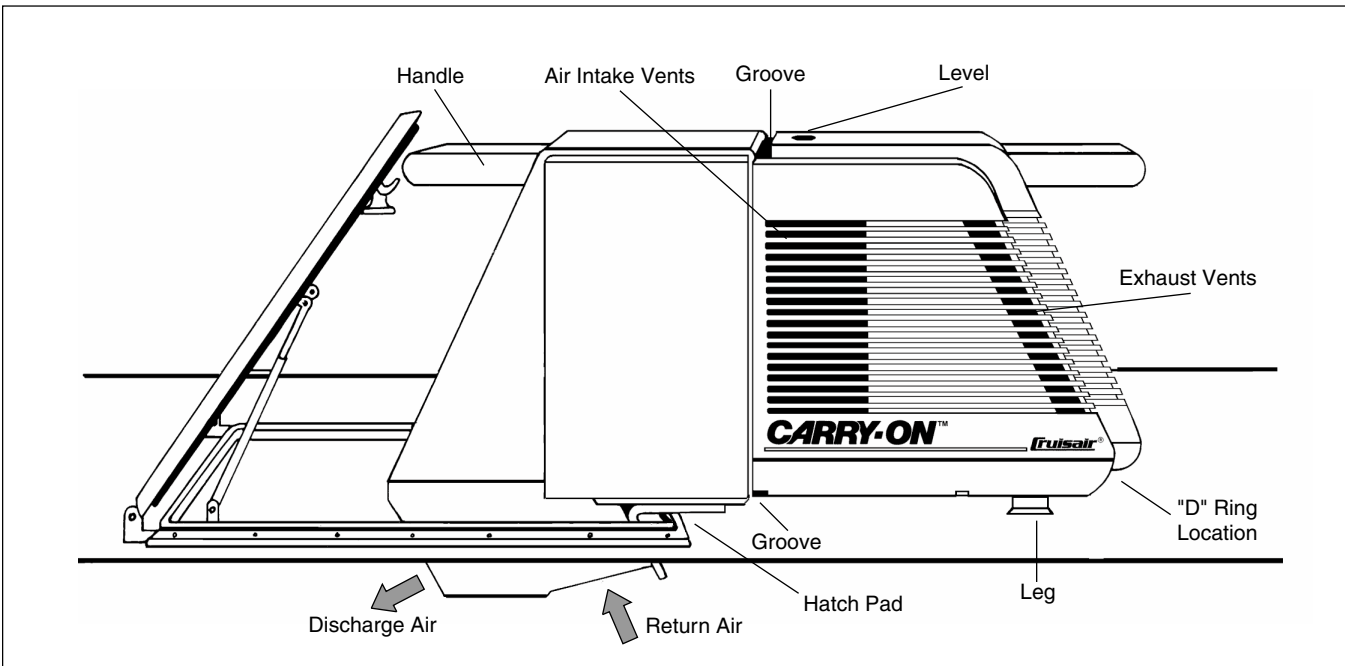

Figure 7. The Carry-On positioned in the hatch of a boat without the hatch bag.
1. Place in open hatch as shown. (See Figure 7.) Adjust Carry-On so that the hatch pad protects and insulates the hatch and the Carry-On unit. Make sure that movement of Carry-On is stifled due to wedging action of the hatch pad as it presses against hatch edge.